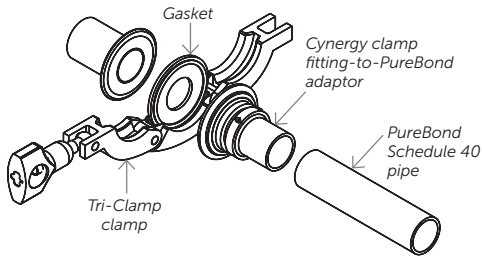

Figure 1.
3. Place the appropriate gasket between the two sanitary flanges (see Figure 1).